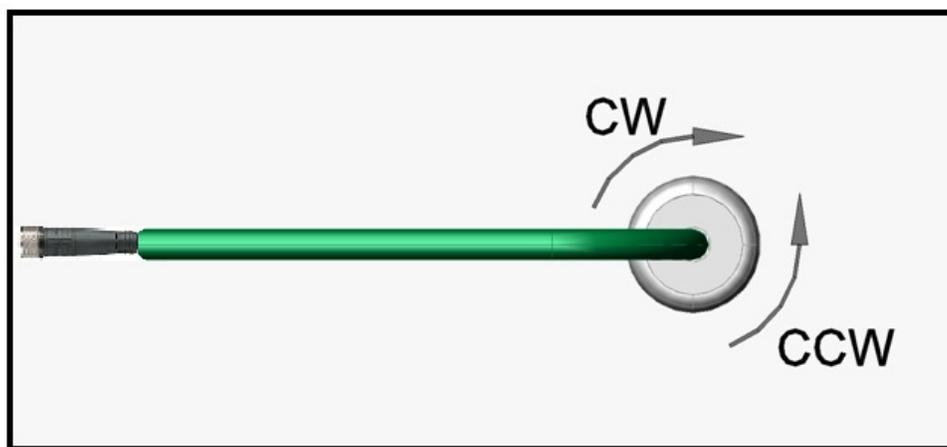

FIGURE 18 - MOTOR ROTATION DIRECTION CONVENTION
The *MotionLinx-Ai* module uses a Clock-Wise (CW) and Counter Clock-Wise (CCW) motor rotation definition. The reference for this distinction is based upon viewing the MDR or PGD from the cable exit end of the device as depicted below in Figure 18.